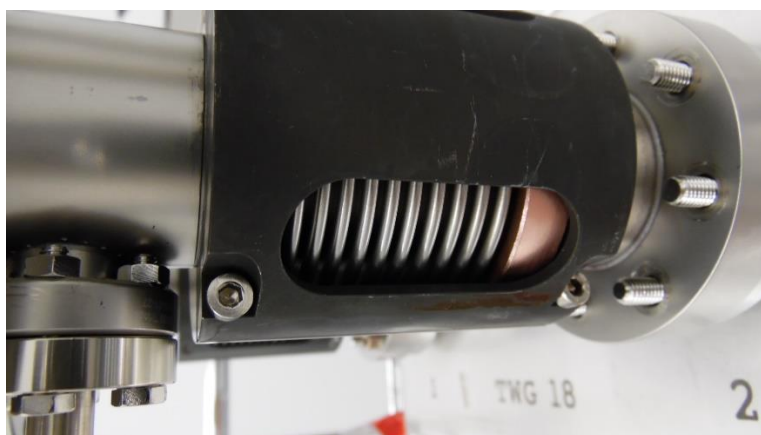

Figure 7.3: Bellows protection bracket
- 7.3.1. Remove the bellows protection bracket (Figure 7.3) and inspect the bellows convolutions. Generate an NCR if there are any dents or scratches larger than 1/16", or any other signs of damage.